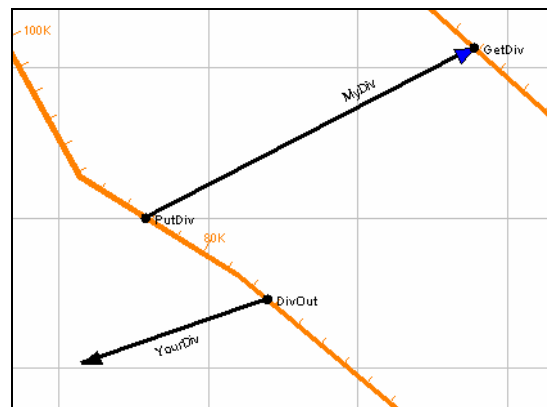

Figure 6.12 Example Diversions
4. It's a good idea to rename the Computation Points that are automatically generated for a diversion. To do this, select the **Computation Point Tool**  and right-click on the computation points at the ends of the diversion. Then, from the shortcut menu, select **Rename Computation Point**. Figure 6.12 shows example diversions where the Computation Points for the diversions were renamed (“PutDiv”, “GetDiv”, and “DivOut”).
After the diversion is defined, it will show up as a black line with an arrow head at the divert-to end. If the diversion leaves one location and returns to another location (see “MyDiv” diversion in Figure 6.12), the arrow head is blue. If the diversion leaves the system (see “YourDiv” diversion in Figure 6.12), then the arrow head is displayed in black instead of blue.